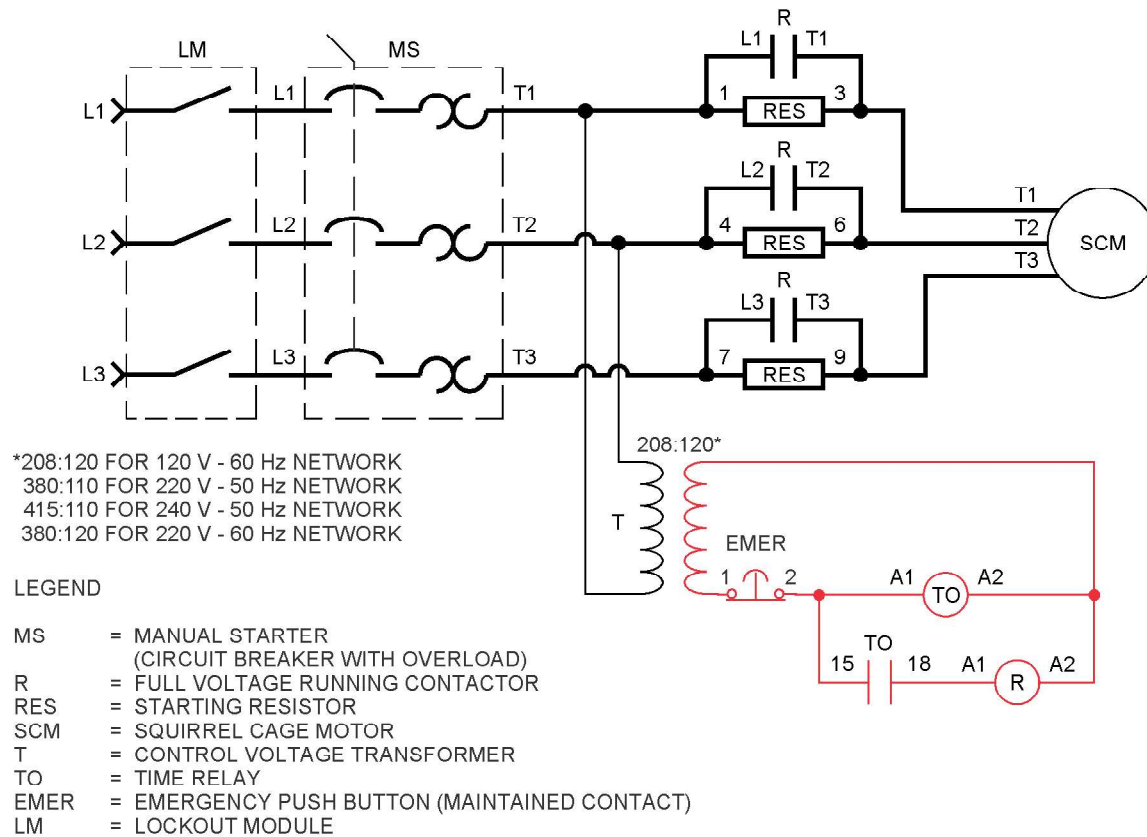

Figure 6-7. Primary resistor starter with time relay circuit.
Figure 6-7 is a primary resistor circuit using a time relay. Once the power and the Manual Starter are turned on, the motor is started under reduced voltage, because resistors are placed in series with its terminals. The Time Relay coil is also energized and the on delay starts. Once the preset delay has been reached, the Time Relay NO contact closes. This energizes the running contactor, hence bypassing the resistors and making the motor run under full voltage.
Connect the circuit shown in Figure 6-7.
1. In the Figure 6-7 circuit, when does the motor receive full voltage?
3. In the Figure 6-7 circuit, when is the Time Relay coil energized?
4. In the Figure 6-7 circuit, which control device is used to switch the R contactor on and off?
5. In the Figure 6-7 circuit, what happens to the R contactor, if the Manual Starter is turned off while the motor is running at full voltage?